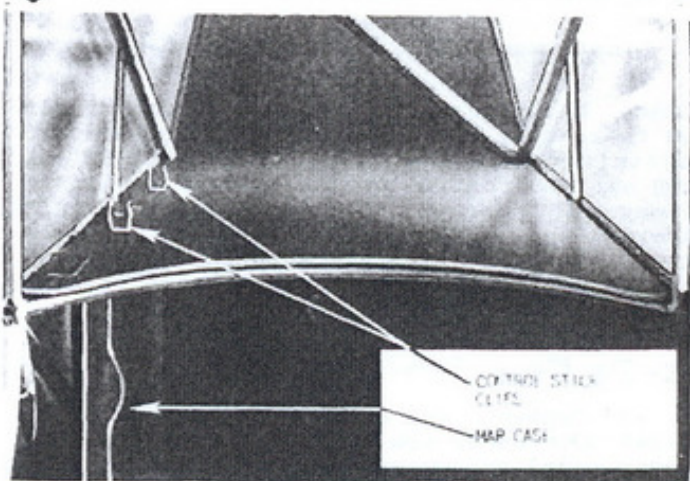

Figure 13 -
e. The Lower Left Side. (See figure 13.) - The throttles are dual quadrant levers along the window ledge. The fuel shut-off control is recessed. Push forward for "ON" and pull backward for "OFF." It operates the fuel shut-off cock directly beneath the gas tank. The stabilizer adjustment control, by means of a cranking action, causes a worm gear in the stabilizer assembly to raise or lower the leading edge of the horizontal stabilizer, correcting for various flight or load conditions. A visual indicator button above the crank is provided which shows the position of the stabilizer.
b. Set throttle slightly open. (See figure 13.)
c. Turn on fuel shut-off control. (See figure 13.)
c. Check airplane loading and adjust stabilizer accordingly with crank. (See figure 13.) It may be readjusted in the air.
b. The stabilizer (figure 13) may be adjusted for load changes, thus maintaining trim throughout the flight.
- (1) Aileron or slow roll
- (2) Chandelle
- (3) Half roll or split S
- (4) Immelman turn
- (5) Loop
- (6) Normal spin
- (7) Normal stall
- (8) Snap roll or horizontal spin
- (9) Vertical bank (not to exceed 70 degrees)